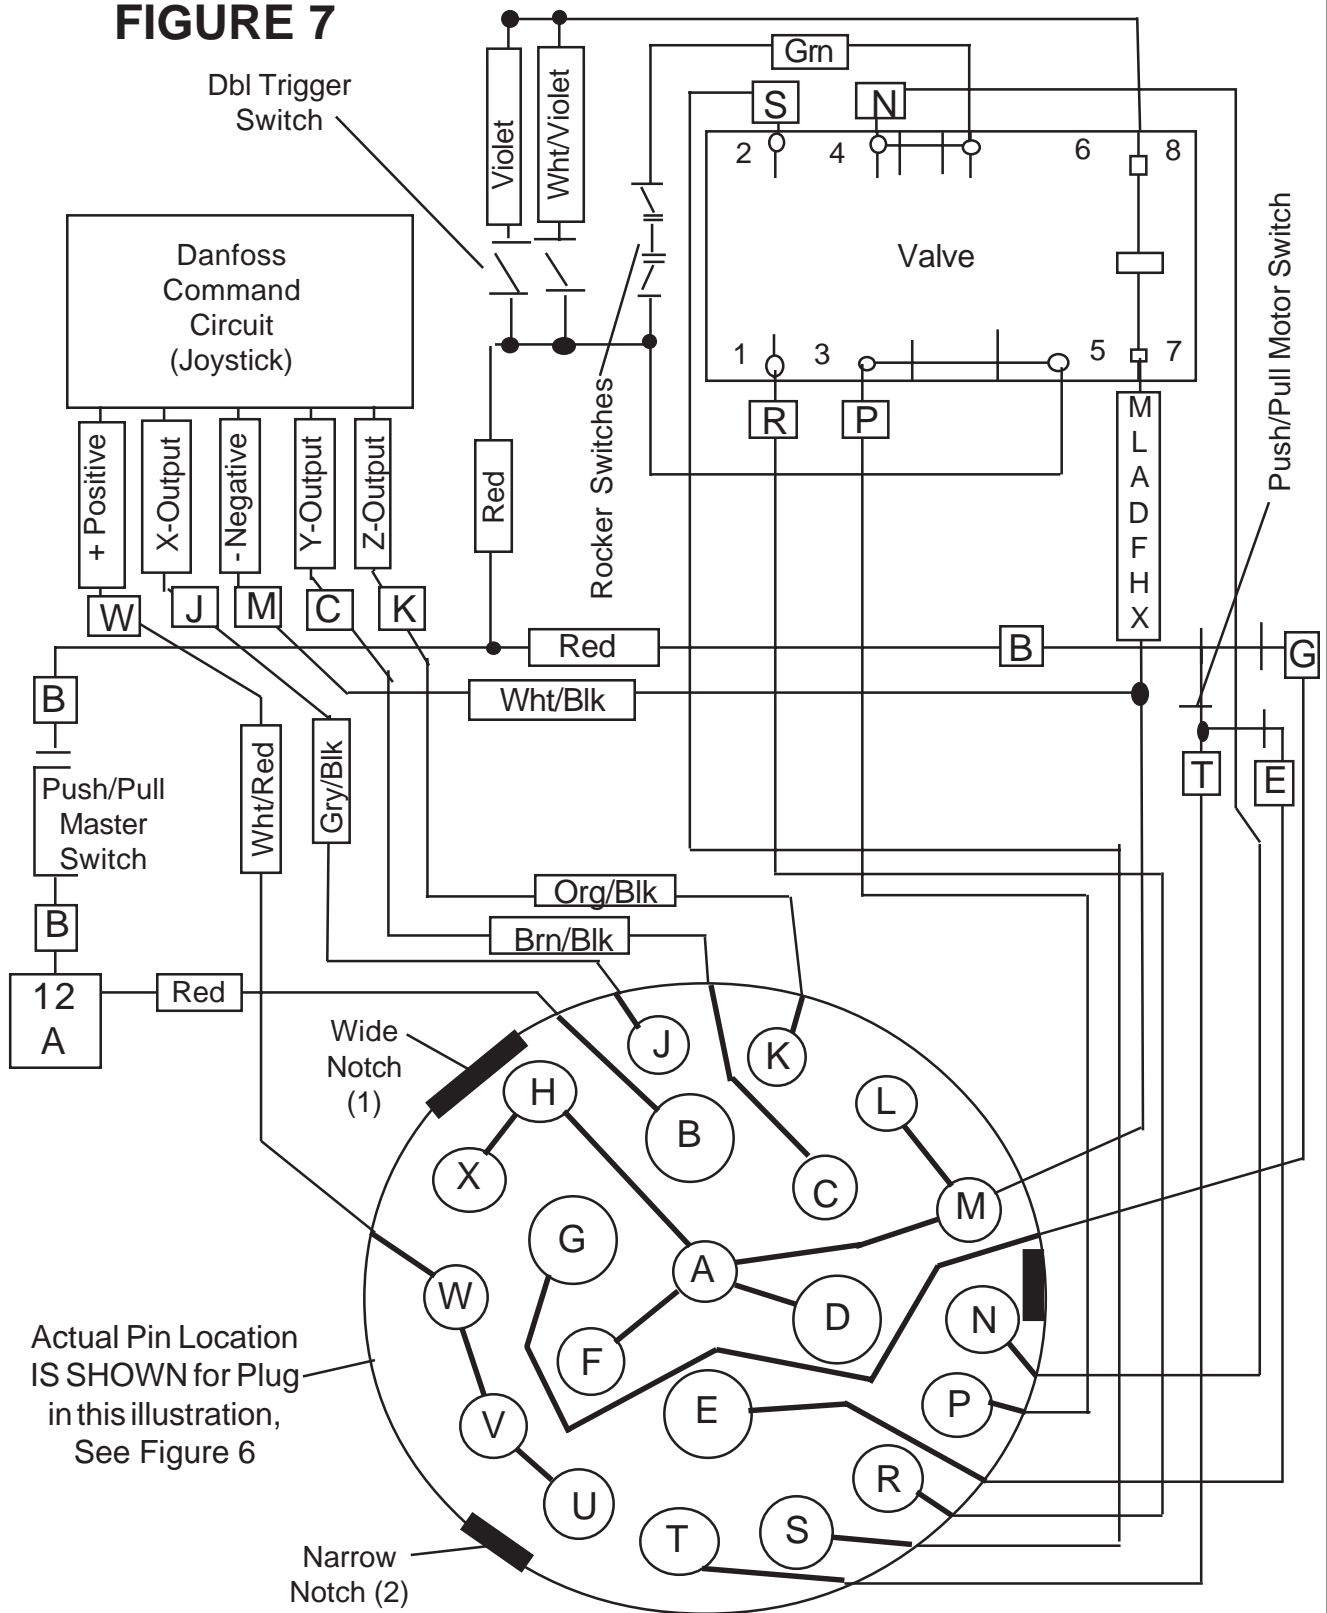

**FIGURE 6**
Electrical Signals are sent to the Controllers etc. through a Wiring Harness, The Harness is supplied with a one way connector at the Joystick Console Box (So it can not be installed Wrong). Connectors are supplied for each electric valve controller connection, These are labeled (with Letter code A,B,C etc.) for the function which they are connected. The Plug will only fit together one way and should always have right connections. BUT if the terminals within this Plug are moved around or the connections at the valve end are changed then the Plug would still be connected the same way and be Wrong. If any connections are removed they MUST be placed back in the same order they came out of. (SEE FIGURE 5 and 6) See Figure 6 for Plug Connection (Letter Code) & Terminal locations, Also the Wiring Schematic, BUT NOTE on the Wiring Schematic it WILL NOT be the actual location of Wires (Letter Codes ABC etc.), They are changed to enable the wiring diagram to be drawn with as few lines crossing each other as possible for illustration purposes.
**See Figure 6 for actual Wire locations in Plug.**
Below (Figure 6) is the actual Pattern of Pins in Plug at Joystick Console and the Pattern for plug on Wiring Harness. In Wire schematic drawing this Pattern is the same for Illustration of Wire Routing, Some Wires cross each other in illustration but actually run along side each other in actual Harness. In the illustrations notice some pins are connected together. Use Plug patterns in Wire Schematic to Connect plugs is OK.